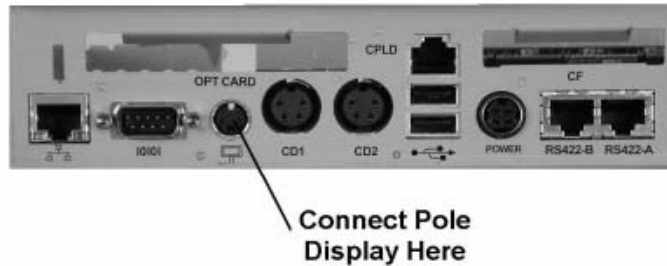

Figure 2-19: Connecting the Pole Display to the KWS4
3. Power-off the KWS4 and attach the 4-pin DIN cable to the Customer Display connector on the workstation IO panel shown in Figure 2-19, below.